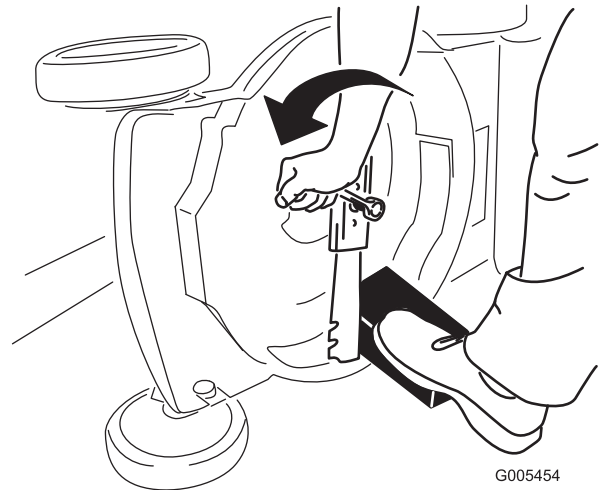

Figure 28
- Use a block of wood to hold the blade steady (Figure 28).
- Remove the blade, saving all mounting hardware (Figure 28).